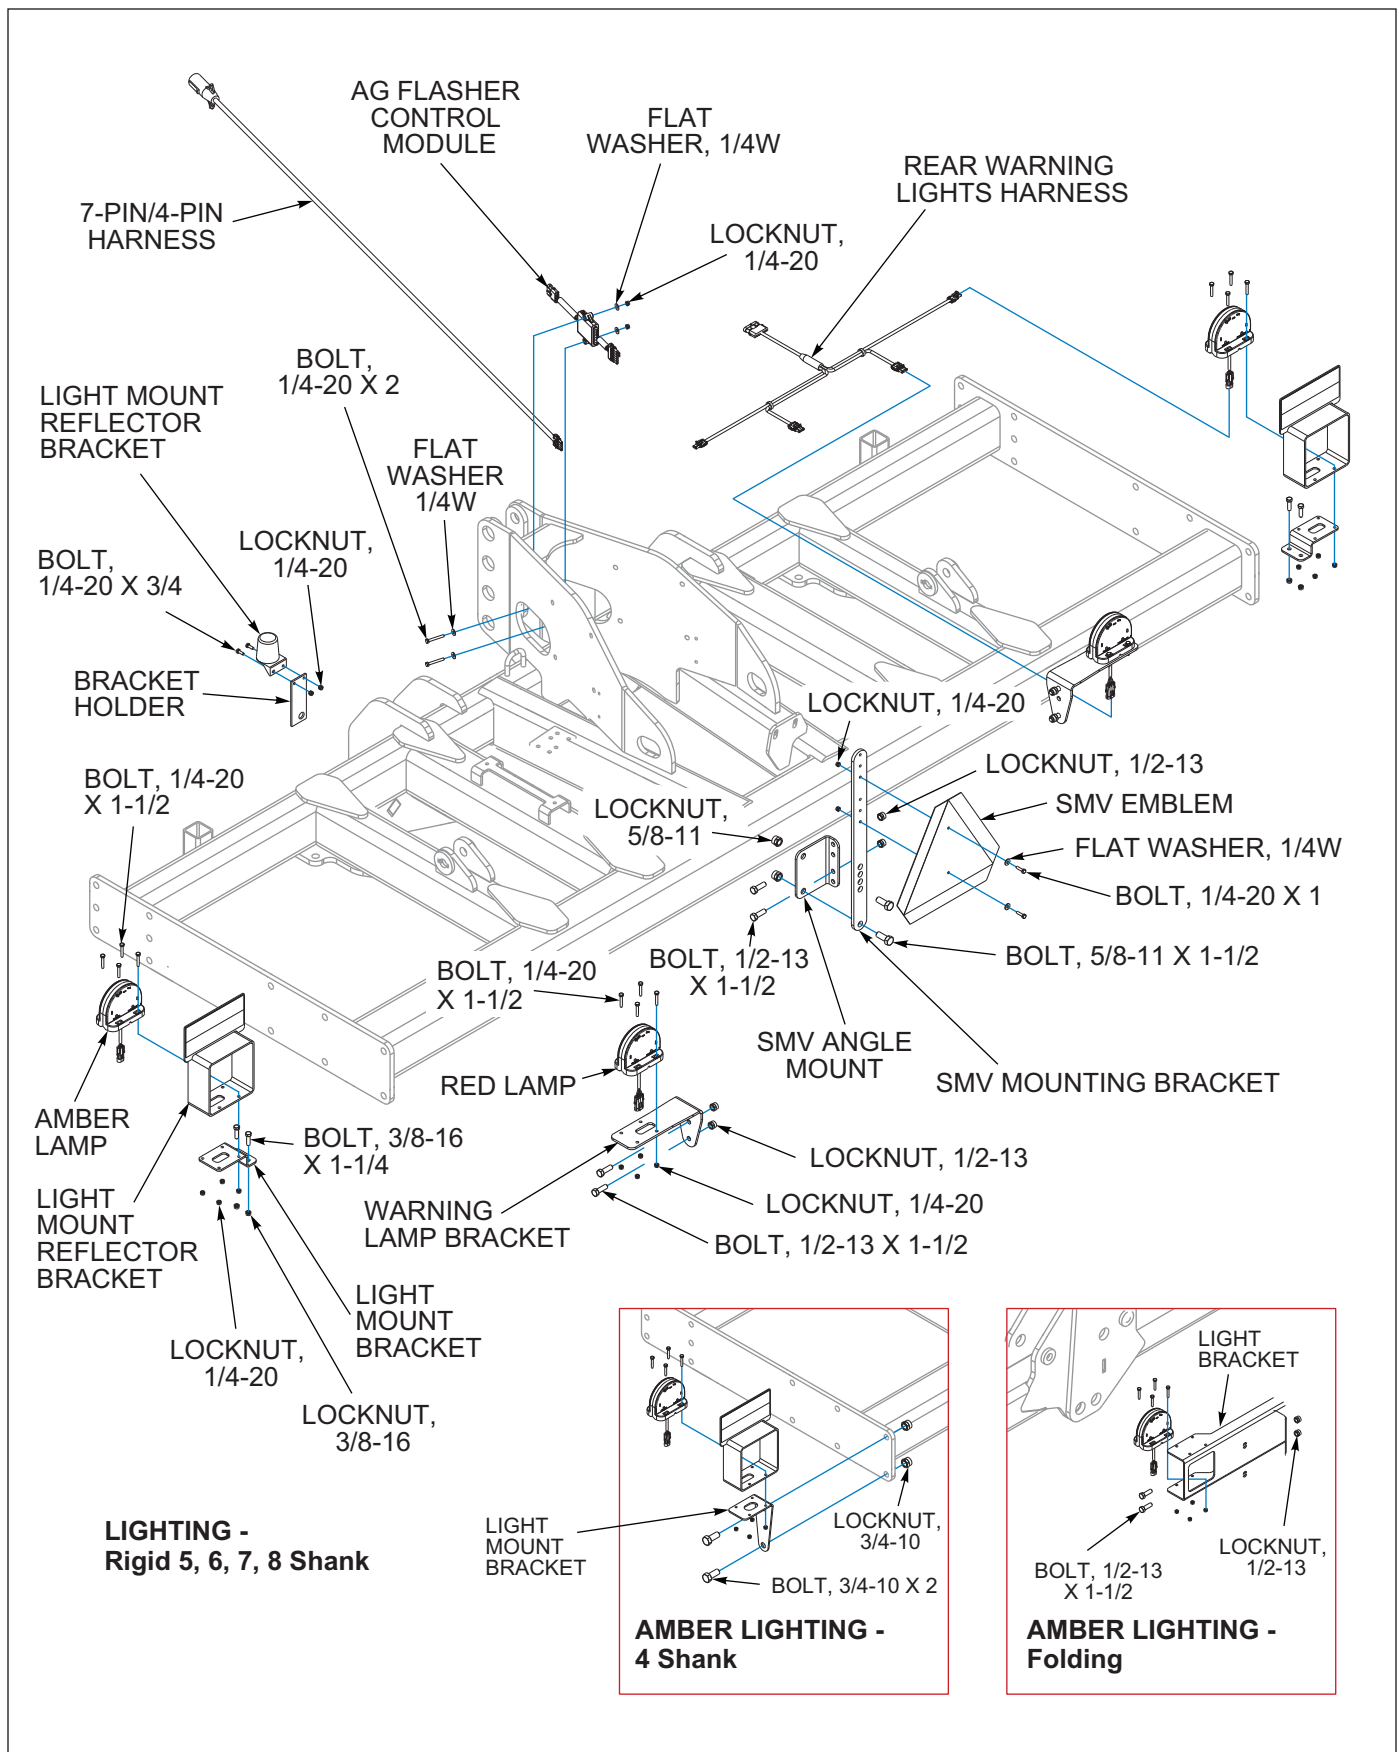

Figure 3-11: LED Light and SMV Bracket Installation
2. Attach SMV emblem to top of SMV mounting bracket using 1/4-20 x 1 Hex Head Cap Screws, Flat Washers, and Locknuts (See Figure 3-11.)
1. Attach left and right (Amber) Light Mount Brackets to frame. (*See Figures 3-11 thru 3-12.*)